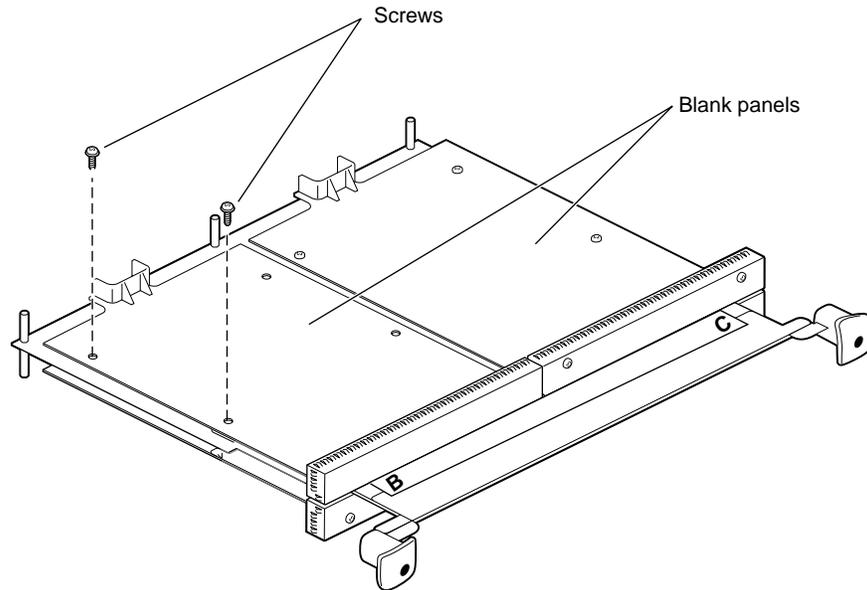

Figure 3-3 Placing a Blank Panel on the XIO Module
2. Use two short screws to attach the blank panel (on the outside edge) to the XIO module if you are installing a baffle, as shown in Figure 3-3.